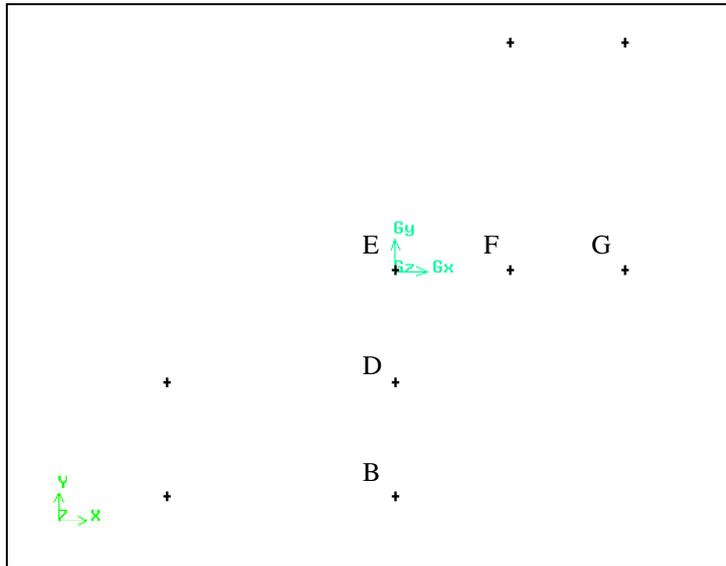

Figure 2-5: Vertices used to create arcs
b) *Shift-left-click* the vertex in the center of the graphics window (vertex E in Figure 2-5).
- d) *Shift*-left-click the vertex to the right of the center vertex in the graphics window (vertex F in Figure 2-5).
- e) Select the vertex directly below the one in the center of the graphics window (vertex D in Figure 2-5).
- Repeat the above steps to create a second arc. The center of the arc is the vertex in the center of the graphics window (vertex E in Figure 2-5). The endpoints of the arc are the vertices to the right and below the center vertex that have not yet been selected (vertices G and B, respectively, in Figure 2-5). The arcs are shown in Figure 2-6.